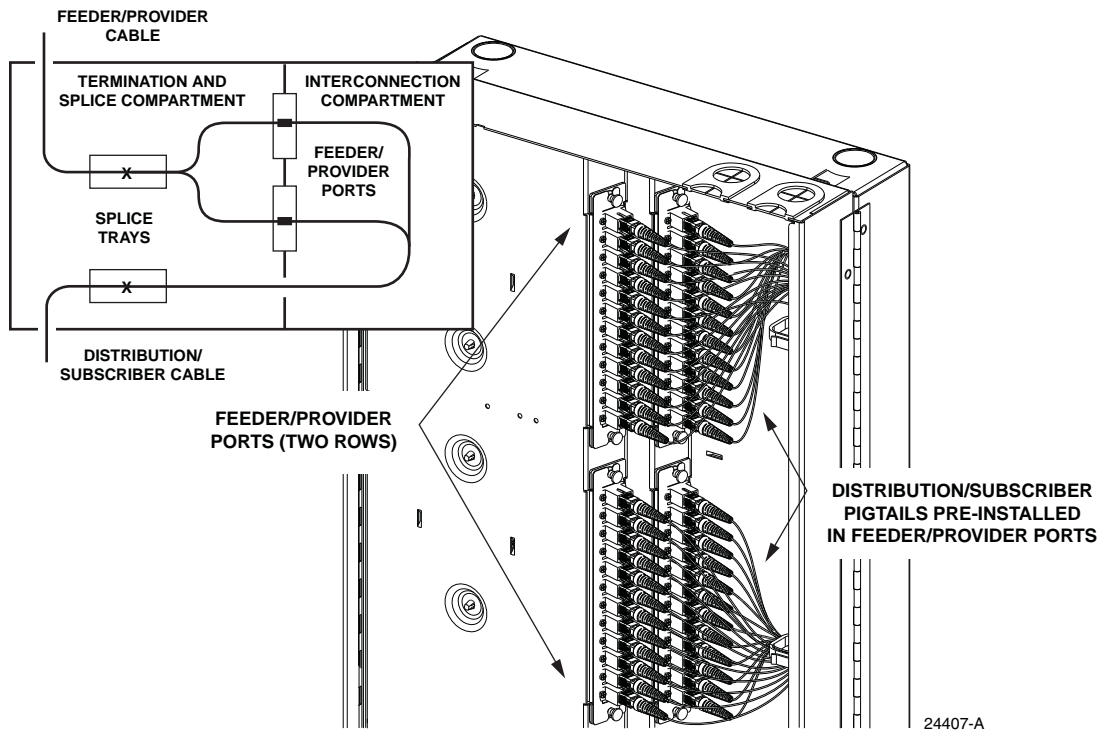

Figure 11. Interconnections – 48-Port IFDT With Pre-Installed Distribution/Subscriber Pigtails
**48-Port IFDT with pre-installed distribution/subscriber pigtails:** All the distribution/subscriber connectors are connected to the feeder/provider ports as shown in Figure 11. Service is initiated when the subscriber equipment is activated.